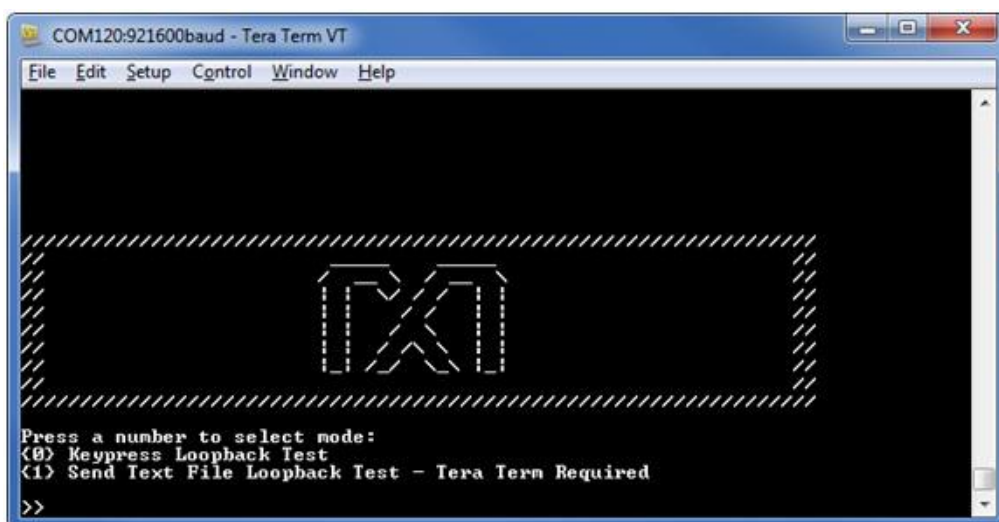

Figure 3, Terminal program main menu.
6. Open the hyperterminal or a similar terminal program on the PC. Find the appropriate COM port, usually a higher number port, such as COM4 or COM6, and configure the connection for 921600, n, 8, 1, none (flow control). The MAXREFDES62# software displays a menu (Figure 3).